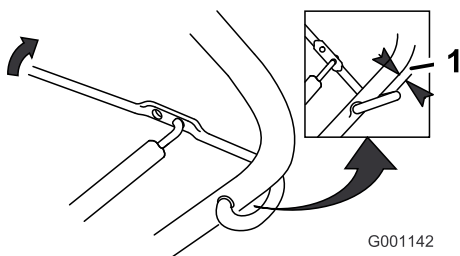

Figure 20
2. Ensure that a 1/16 to 1/8 inch (2 to 3 mm) gap exists between the control bar and the handle (Figure 20). To adjust the cable, refer to Adjusting the Cable below.